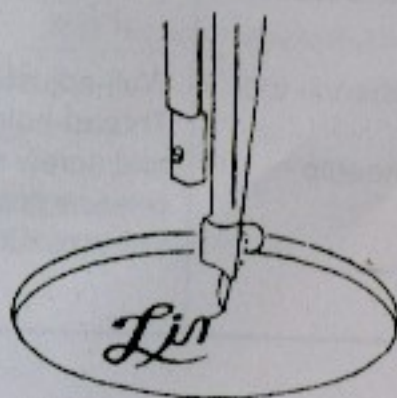

Figure 26
(2) Hold firmly the end of the surface stitches with your left hand, turn the belt pulley manually toward the operator, and then makes the bottom stitches pull out from the holes of the needle plate;
(4) Make sure to stretch tightly the material between the internal and external embroidering frame. Otherwise, skipping, stitches-breaking or material creased might be found (see Figure 26)